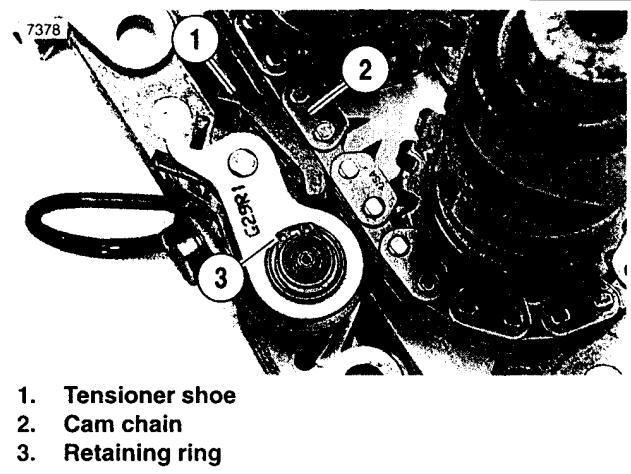

Figure 3-140. Cam Chain Tensioner
2. See Figure 3-140. Remove retaining ring (3) from groove in tensioner post. Discard retaining ring.
- See Figure 3-140. Slide cam chain tensioner assembly onto post inserting spring pin into hole in cam support plate.